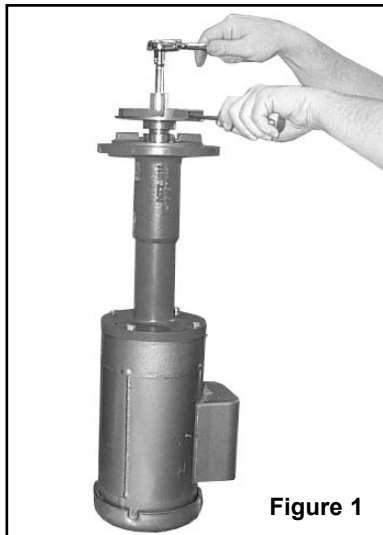

Figure 1
4. Remove (4) bolts holding plate to tank.
7. Insert a screwdriver in one of the impeller waterway passages and back off the impeller nut as shown in Figure 1.